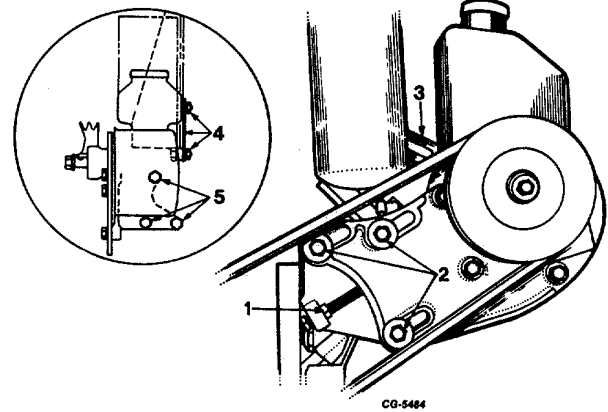

Fig. 19 Removing Power Steering Pump
brackets to engine mounting bolts (Figure 19)
10. Loosen the power steering pump adjusting bolt locknut, three bracket bolts and adjusting strap bolt at the rear of pump. Push mounting bracket inward to remove power steering pump drive belts (Figure 19).